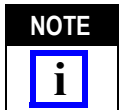

Figure 1
1. Slide the clamp nut, washer, gasket, and other washer onto the cable. Strip the cable to the dimension shown in Figure 1. Take care not to nick the braid.